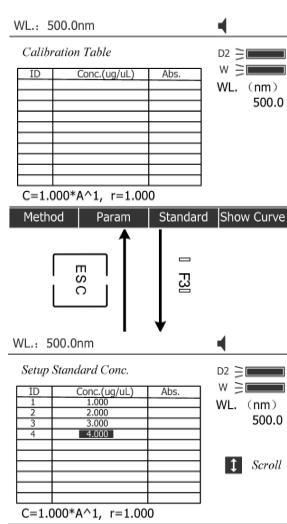

Fig. 4.4
4) Setup Standard Samples. Press F3 to setup standard (Fig. 4.4), input the concentrations of corresponding standard samples according the indication and press [ENTER] to confirm. Users can use Δ & ∇ to choose the value you just input and press [CLEAR] to delete, then input a new value, press [ENTER] to confirm. Press [ESC] to cancel after all the input.